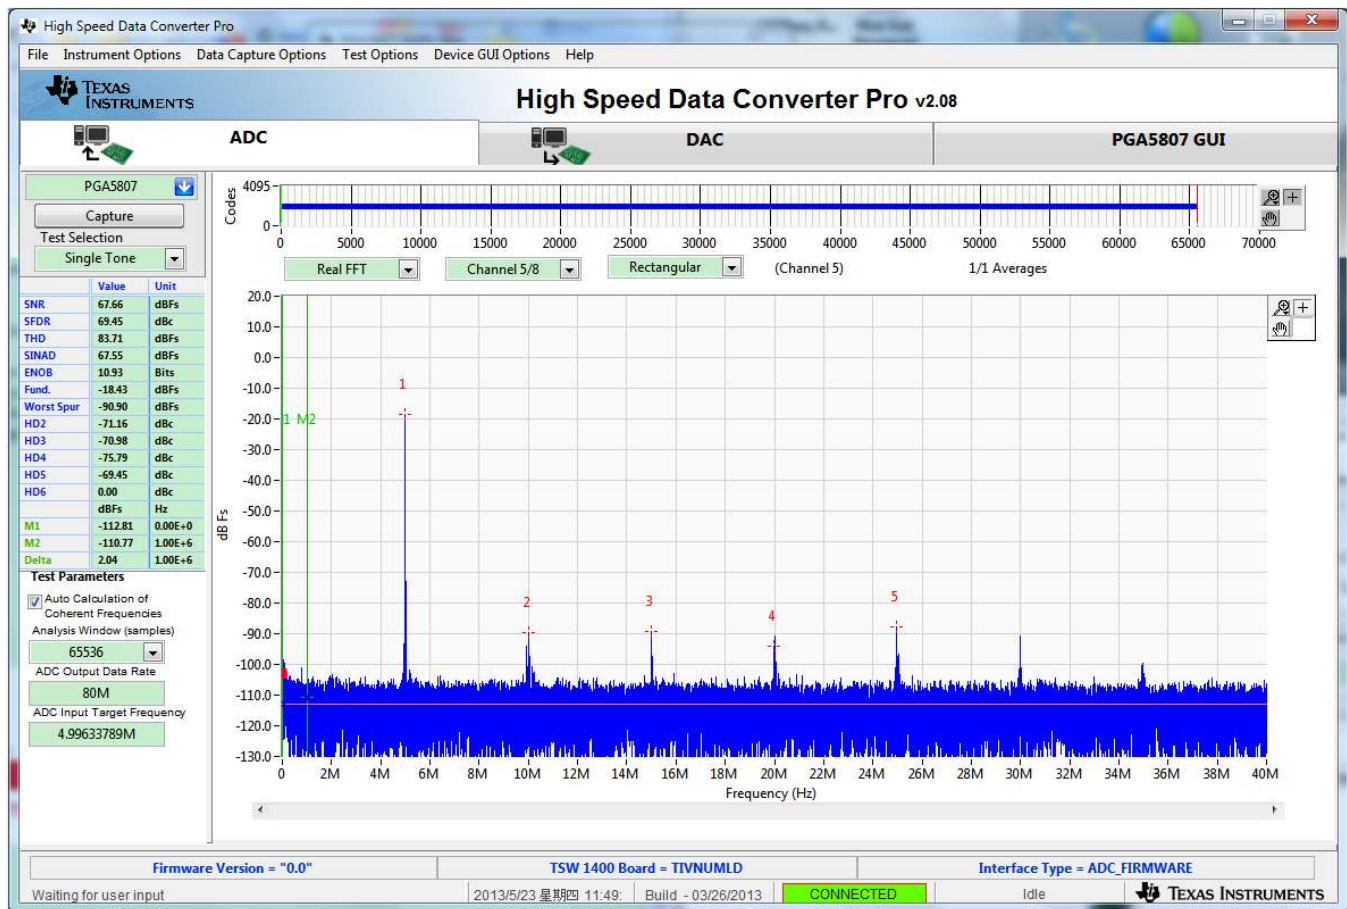

Figure 49. PGA5807+ADS5296 Gain Test Capture 3
7. Click on the ADC tab and press the *Capture* button to see the result shown in Figure 49.